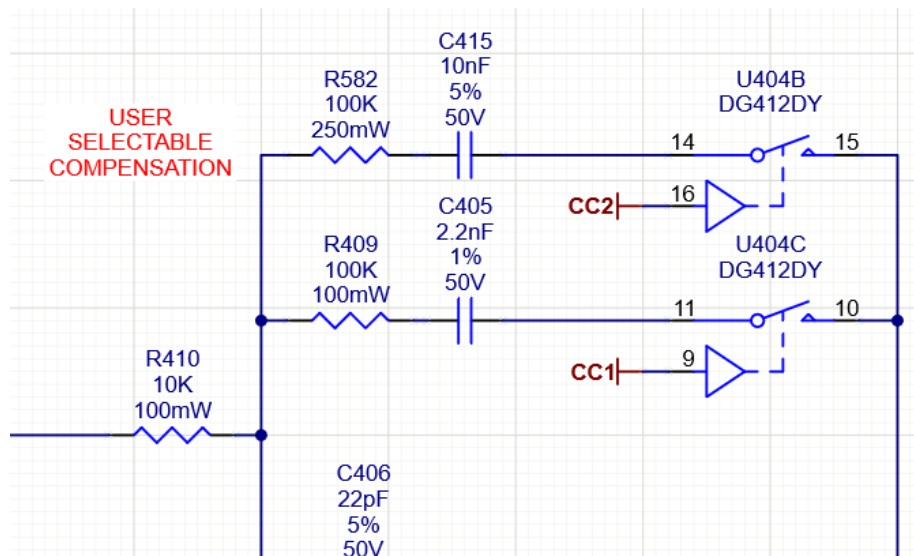

Figure 6.3 – Selectable factory-installed compensation networks
If your load inductance is between 75  $\mu$ H and 1 mH, and your load resistance is less than 5 ohms, then you can likely use Compensation Network 1 for your application. If your load inductance is between 1 mH and 5 mH, and your load resistance is less than 5 ohms, then you can likely use Compensation Network 2 for your application. (See **Figure 6.3**). These compensation networks are enabled when Compensation Network 1 DIP switch (SW#6) or Compensation Network 2 DIP switch (SW#5) on the Master amplifier module is set to the ON (UP) position.